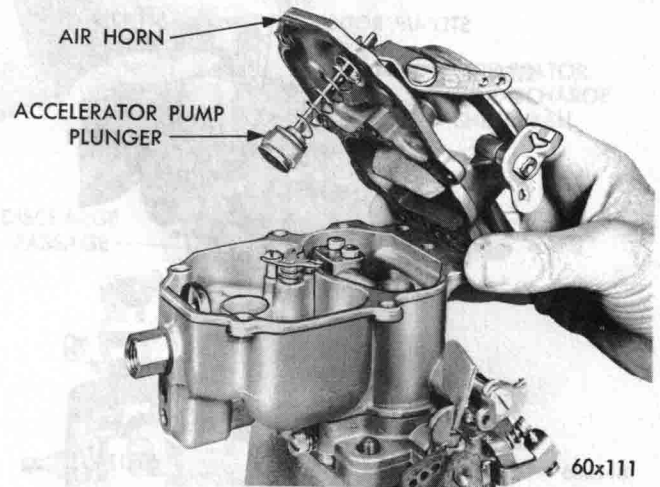

Fig. 4—Removing or Installing Air Horn
(4) Remove the air horn retaining screws and lift air horn straight up and away from main body, as shown in Figure 4. Discard the gasket.
(19) Place a new gasket on the main body, then install the air horn. (Refer to Fig. 4). Install attaching screws and tighten securely. (When installing air horn, be sure the leather on the plunger does not fold back).